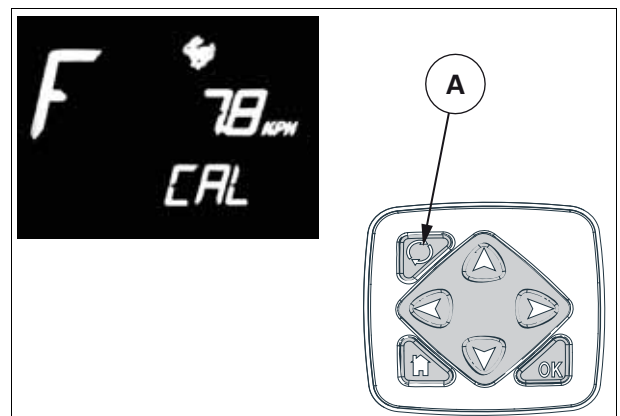

Fig. 33.
3. "CAL" should appear on the screen fig. 33.